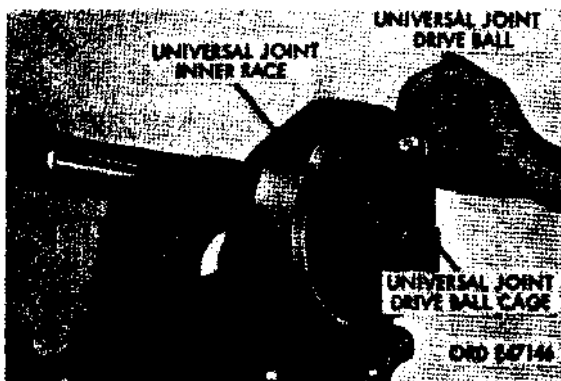

Figure 356. Universal joint drive ball removal
- (7) Remove universal joint balls (fig. 356). Tilt ball race in universal joint bell until one universal joint ball can be lifted out. Then tilt the ball race until the next ball can be removed, and continue until all the balls are removed.